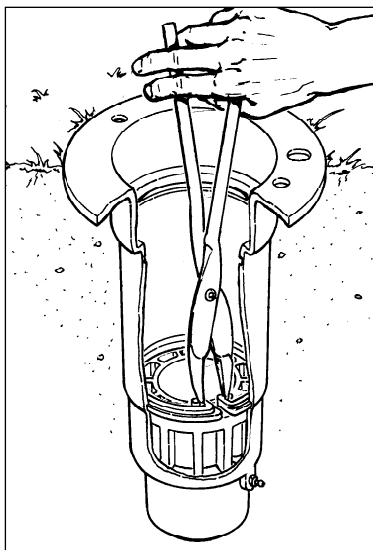

Figure 6
NOTE: Stator support is keyed to riser assembly. During reassembly, position stator support keyways over alignment tabs of riser assembly. Refer to **Figure 6** for location of alignment tabs.
NOTE: Drive assembly is keyed to riser assembly. During reassembly, position extra rib of drive assembly to the right of either alignment tab of riser assembly as shown in **Figure 6**.
1. To remove valve assembly, squeeze ears of snap ring together with snap ring pliers (P/N 995-07) and remove snap ring from sprinkler body. (See **Figure 6**.)